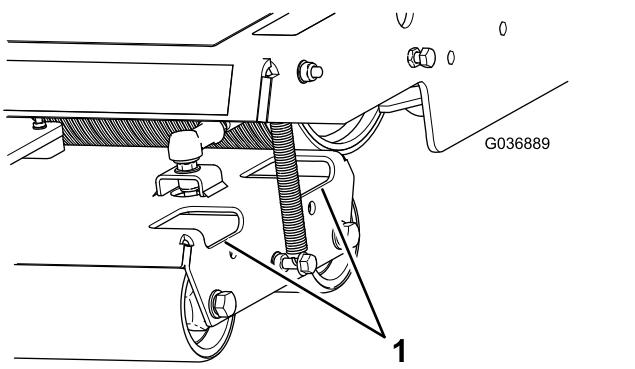

Figure 40
2. Clean dirt and debris from the rollers as needed by spraying water through the holes in the roller housings (Figure 40).